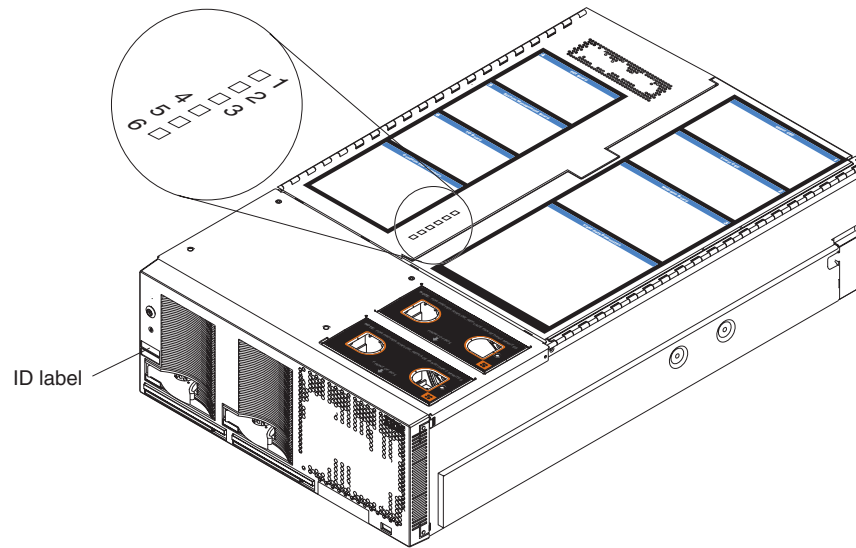

Figure 28. Top cover LEDs
3. Check the lights on the top of the server (see Figure 28 on page 67).